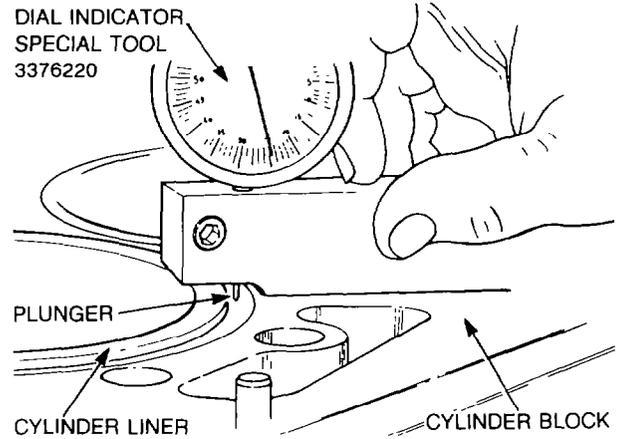

Figure 21 — Measuring Cylinder Liner Protrusion
- u. Measure the cylinder liner protrusion, using special tool 3376220, at four points around the cylinder liner flange, 90° apart (see Fig. 21). Cylinder liner protrusion must be 0.08-0.15 mm